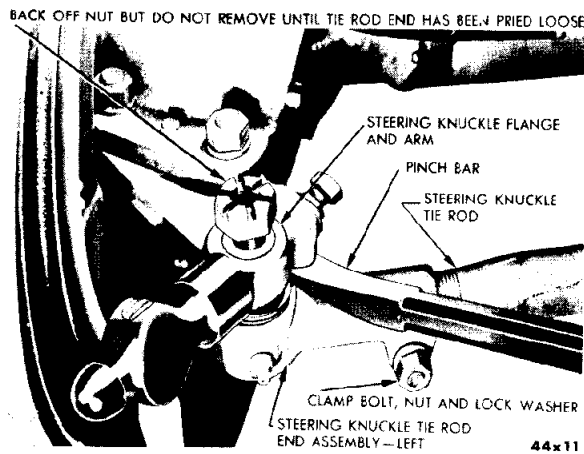

Fig. 36 — Removing Steering Knuckle Tie Rod End
- (8) Disconnect the steering tie rod from the steering knuckle flange arm (Fig. 36).